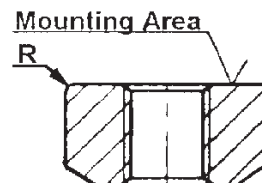

Fig. 3-27a Correct Mounting Position of Track Shoe Nuts
- Place track shoes on the track chain and insert bolts. Align the track shoes parallel with each other. Hand start the nuts, making sure the rounded corners of the nuts are showing towards the track link (fig. 3-27a) and the nuts are parallel to the securing edge of the nut seat.